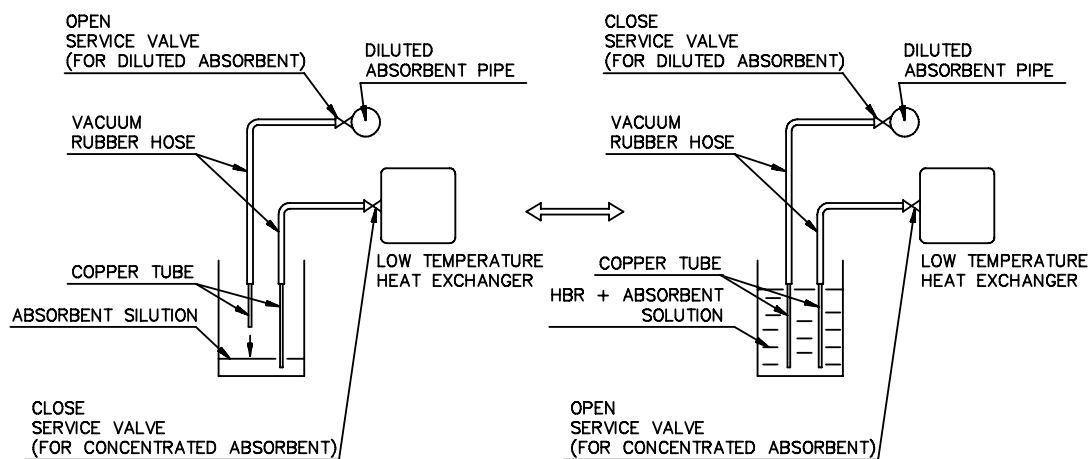

Fig. 7-10.
- (c) Connect other one of vacuum rubber hose to service valve which is furnished on diluted absorbent pipe between the absorbent pump and Low Temperature Heat Exchanger, fix it with hose band. (Refer to Fig. 7-10.)